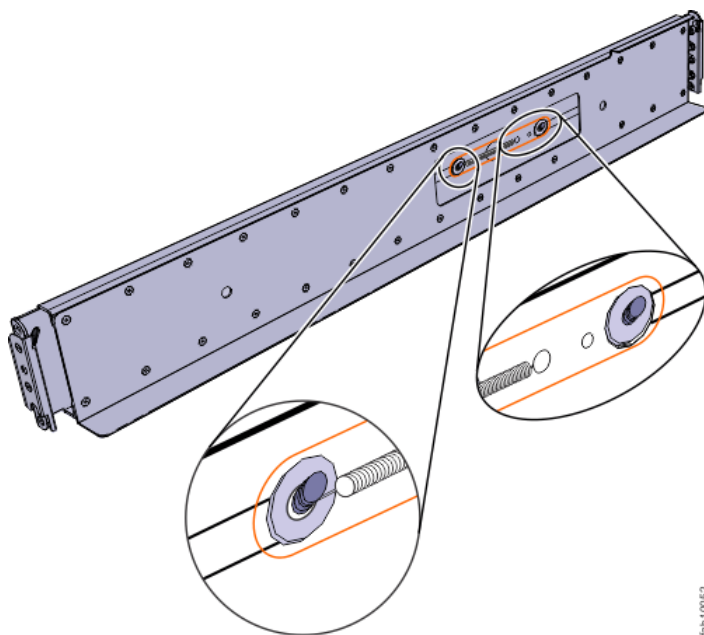

Figure 33. Installing the rail spring
- b) Push one looped end of a spring over one stud on the inside of the rail. (See Figure 33 on page 65.)